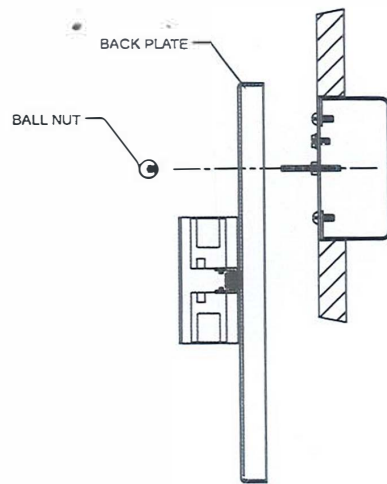

FIGURE-02
5. Attach the backplate to the mounting ring secure it with ball nut. (See Figure-02)